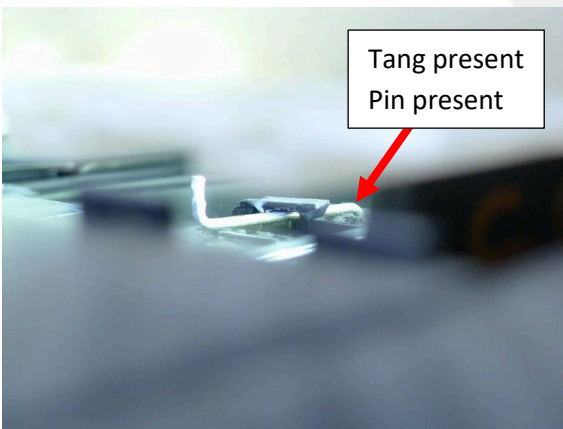

Figure 3 – Tang is present and secure, latch pin present – Go to Step 6
- If the tang is present and secure, and the latch pin is present (Figure 3), replace the latch pin with an updated component. Skip to step 6.